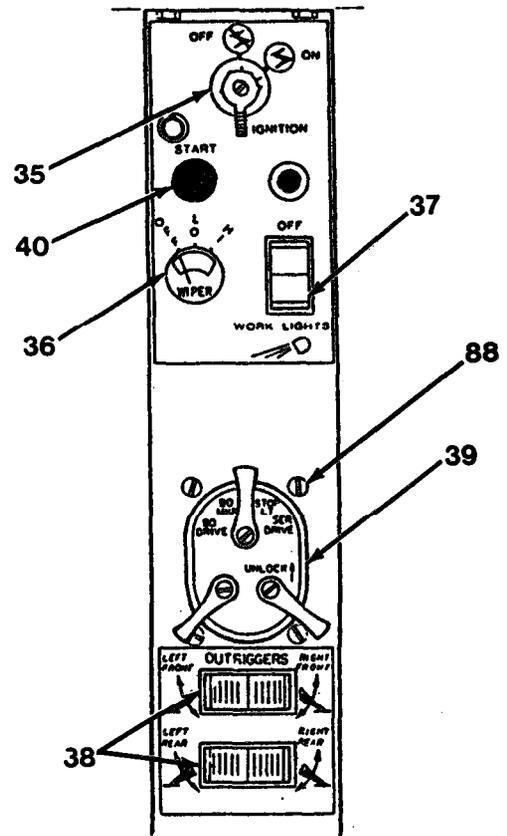

Figure 17-5
6. Installation of master light switch (39): Connect wires to light switch (39) and remove tags. Push switch (39) up through panel and install four screws (88, Figure 17-5). Install three levers on light switch (39) and install three screws in levers.
7. Installation of work light and outrigger switches: Pull wires up through panel and install on switch (37). Remove tags and push switch (37) down through panel. Use same procedure to install remaining two outrigger switches (38).
8. Installation of wiper switch: Connect wires to wiper switch (36) and remove tags. Push switch (36) through panel. Install washer, nut and knob. Tighten nut.
9. Installation of ignition switch: Push switch (35) in through back of panel and install nut, knob and screw. Connect wires to switch.